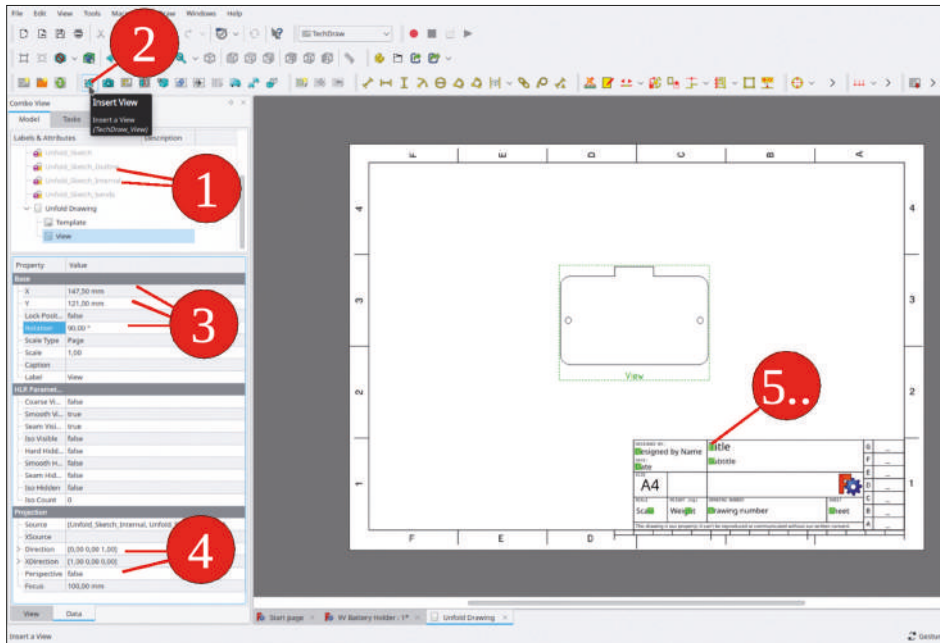
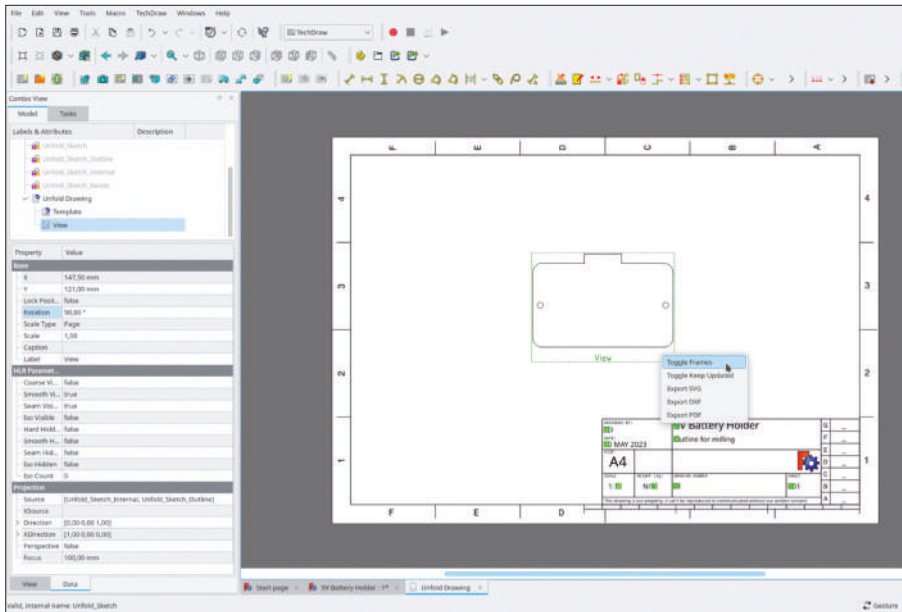

Figure 5-28
Figure 5-29
35. In the tree view, mark 'Unfold\_Sketch\_Outline' and 'Unfold\_Sketch\_Internal'. Then, click the 'Insert View' tool button (Figure 5-28, steps 1 and 2). Mark the 'View' object, and adjust X, Y and 'Rotation' parameters (step 3), until the view object appears in the center of the drawing. For the translations, you could also drag-and-drop the view. Check the 'Scale' to be set to 1.00 (important!). Then, scroll to the 'Projection' section of the property list, and verify the 'Perspective' is set to 'false' (this avoids distortions), and that the 'Direction' property reads '[0,00 0,00 1,00]' (the unit vector of the z direction = top view, Figure 5-28, step 4).
36. On the drawing, the view as well as the fields of the frame are displayed with small, green markings. Click those in order to edit the content of the fields (Figure 5-28, step 5). Some work on the documentation makes it easier to understand later what the intentions were. For the DXF export, the frame around the viewport is disturbing. You can right-click it and select 'Toggle Frames' from the context menu to hide the frame as well as the green edit markings on the other fields. (Figure 5-29).